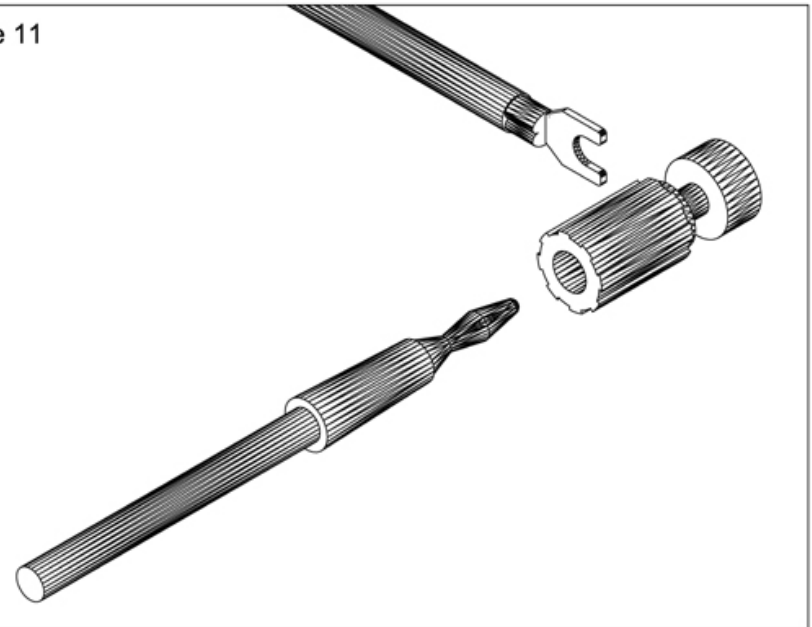

Figure 10
- Supply the cable with a fork connection for an idea connection with the terminal (see figure 10).